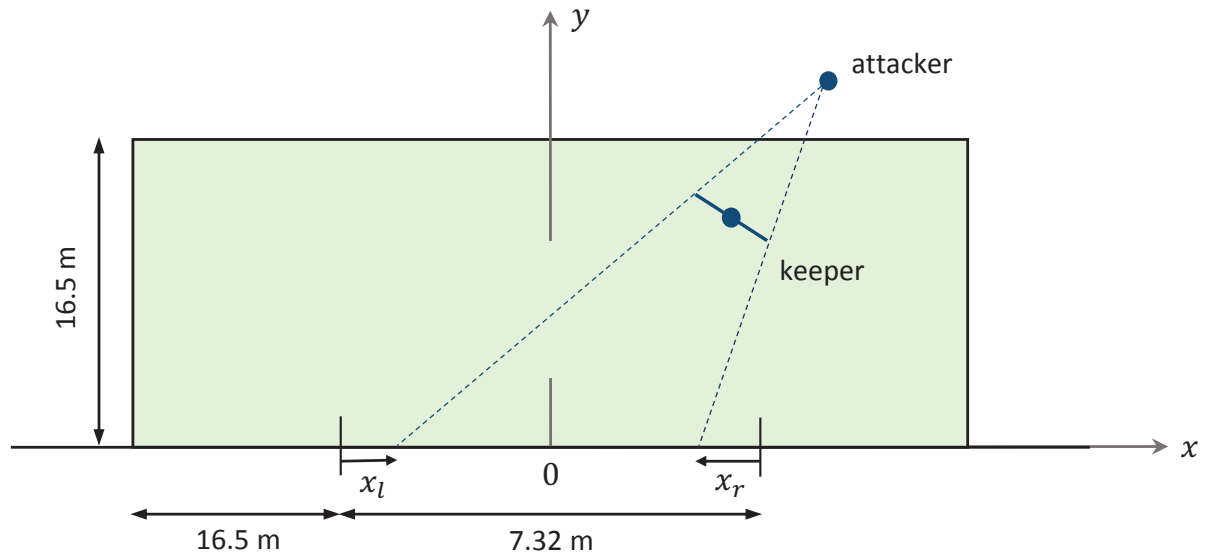
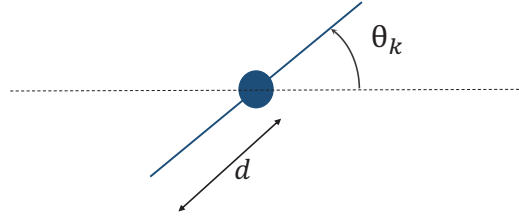

Figure 1: A typical soccer situation. An attacker tries to kick the ball into the goal, the goalkeeper tries to prevent this.
Figure 2: Goalkeeper orientation
Consider the soccer situation depicted in Figure 1. An attacker is running towards the goal (just outside of the penalty area). The goalkeeper has to defend his goal in the best possible way and therefore has to choose the most optimal position and orientation (see Figure 2) within the penalty area.
- In Figure 1, x_l and x_r are respectively the left and right uncovered parts of the goal-line of the goalkeeper. Find an expression for x_l and x_r in terms of x_k , y_k , θ_k , x_a and y_a .